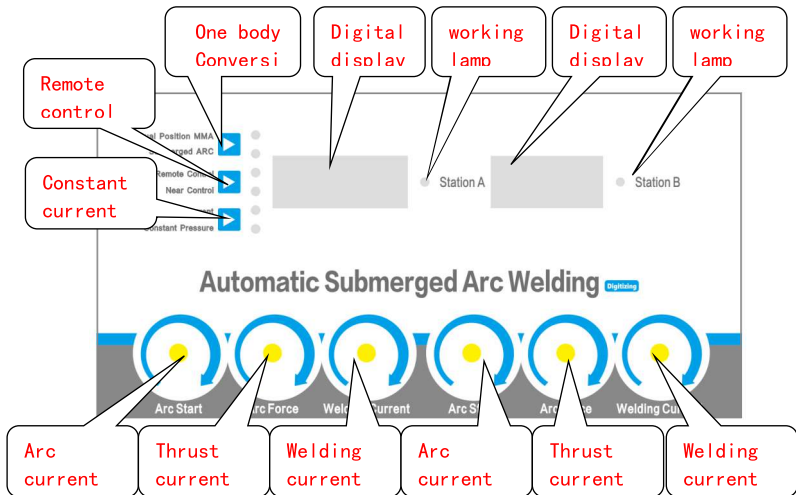

Figure 1, schematic diagram of MZ series digital control panel
③ Fast recovery diode rectifier: full-wave structure, rectification becomes the output energy of the arc welder.
④ Filter reactor: bare aluminum winding, straight rod structure, from the current limiting filter.
⑤ Digital panel: (see Figure 1)